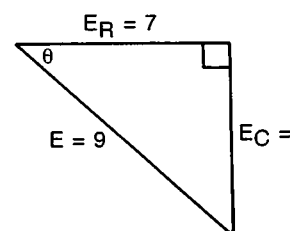

Figure A11
Refer to Figure A11. This triangle represents an RC circuit. The sides of the triangle represent circuit _____.
29. (opposite) The phase angle of the circuit represented by the triangle in Figure A11 is _____.
30. (39°) The adjacent side and the hypotenuse are given in Figure A11. Therefore you use the cos.
Compute the capacitor voltage in Figure A11.
31. (5.66) You could use the sine function since you want to compute the opposite side. The adjacent side and hypotenuse are given in Figure A11 and H was computed in the previous frame.